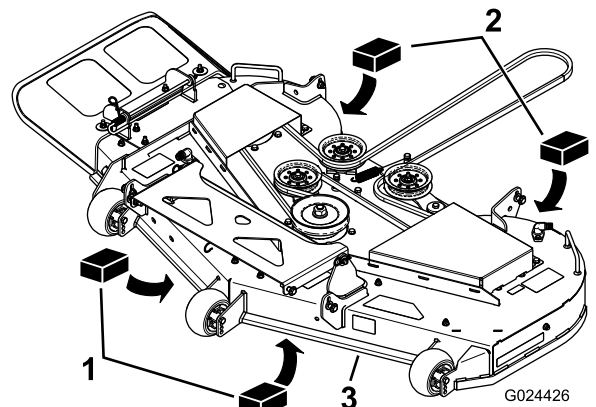

Figure 62
3. Place 2 6.6 cm (2-5/8 inches) blocks under each side of the front edge of the deck, but not under the anti-scalp roller brackets (Figure 62).
4. Place 2 7.3 cm (2-7/8 inches) thick blocks under the rear edge of the cutting deck skirt; one on each side of the cutting deck (Figure 62).